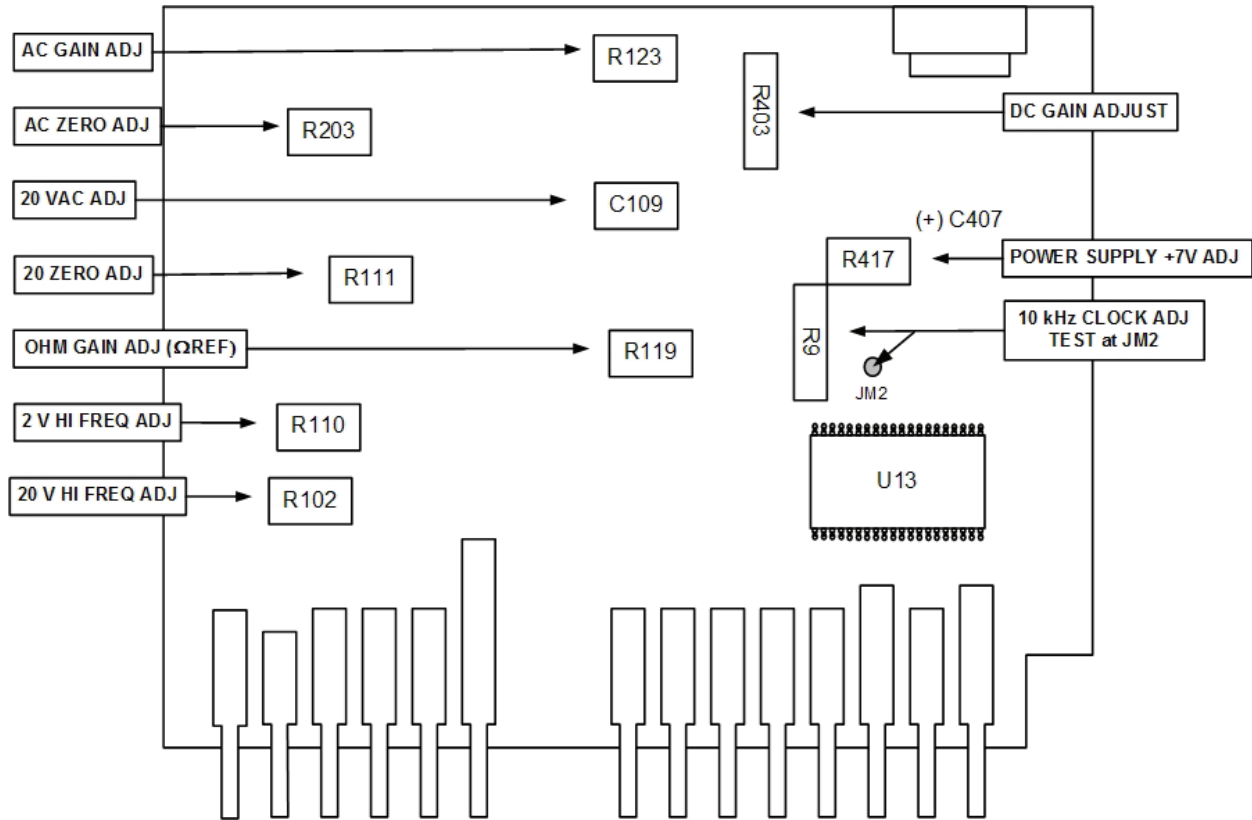

Figure 1. Adjustments locations - models 3435A and 3438A.
(1) Connect calibrator output to TI **VΩ** and **COM** terminals.
(2) Set calibrator output to 19.00 V dc. If TI does not indicate between 18.97 and 19.03 V dc, perform **b** below.
(3) Repeat technique of (2) above, using settings and indications listed in table 3.
**b. Adjustments.** Adjust DC GAIN ADJ R403 (fig. 1) for an indication of 19.00 V dc on TI (R).
- (1) Adjust AC ZERO ADJ R203 (fig. 1) for a TI indication of 0.00 V ac (R).
- (2) Adjust AC GAIN ADJ R123 (fig. 1) for a TI indication of 19.00 V ac (R).
- (3) Adjust 20 V HI FREQ ADJ R102 (fig. 1) for a TI indication of 19.00 V ac (R).
- (4) Adjust 20 VAC ADJ C109 (fig. 1) for a TI indication of 19.00 V ac (R).
- (5) Adjust 2 V HI FREQ ADJ R110 (fig. 1) for a TI indication of 1.900 V ac (R).
- (1) Adjust 20 ZERO ADJ R111 (fig. 1) for a TI indication of 0.00 k $\Omega$ .
- (2) Set calibrator to 19 k $\Omega$ . Adjust OHM GAIN ADJ ( $\Omega$  REF) R119 (fig. 1) for TI indication of actual calibrator resistance.
(1) Connect multimeter to positive side of capacitor (+) C407 (fig. 1) and ground. If digital multimeter does not indicate between 6.99 and 7.01 V dc, perform **b** (1) below.
(2) Set multimeter to measure frequency and connect frequency counter input to JM2 (fig. 1). If multimeter does not indicate frequency between 9980 and 10020 Hz, perform **b** (2) below.
- (1) Adjust POWER SUPPLY + 7 V ADJ R417 (fig. 1) for 7.00 (R).
- (2) Adjust 10 kHz CLOCK ADJ TEST AT JM2 R9 (fig. 1) for 9980 to 10020 Hz (R).